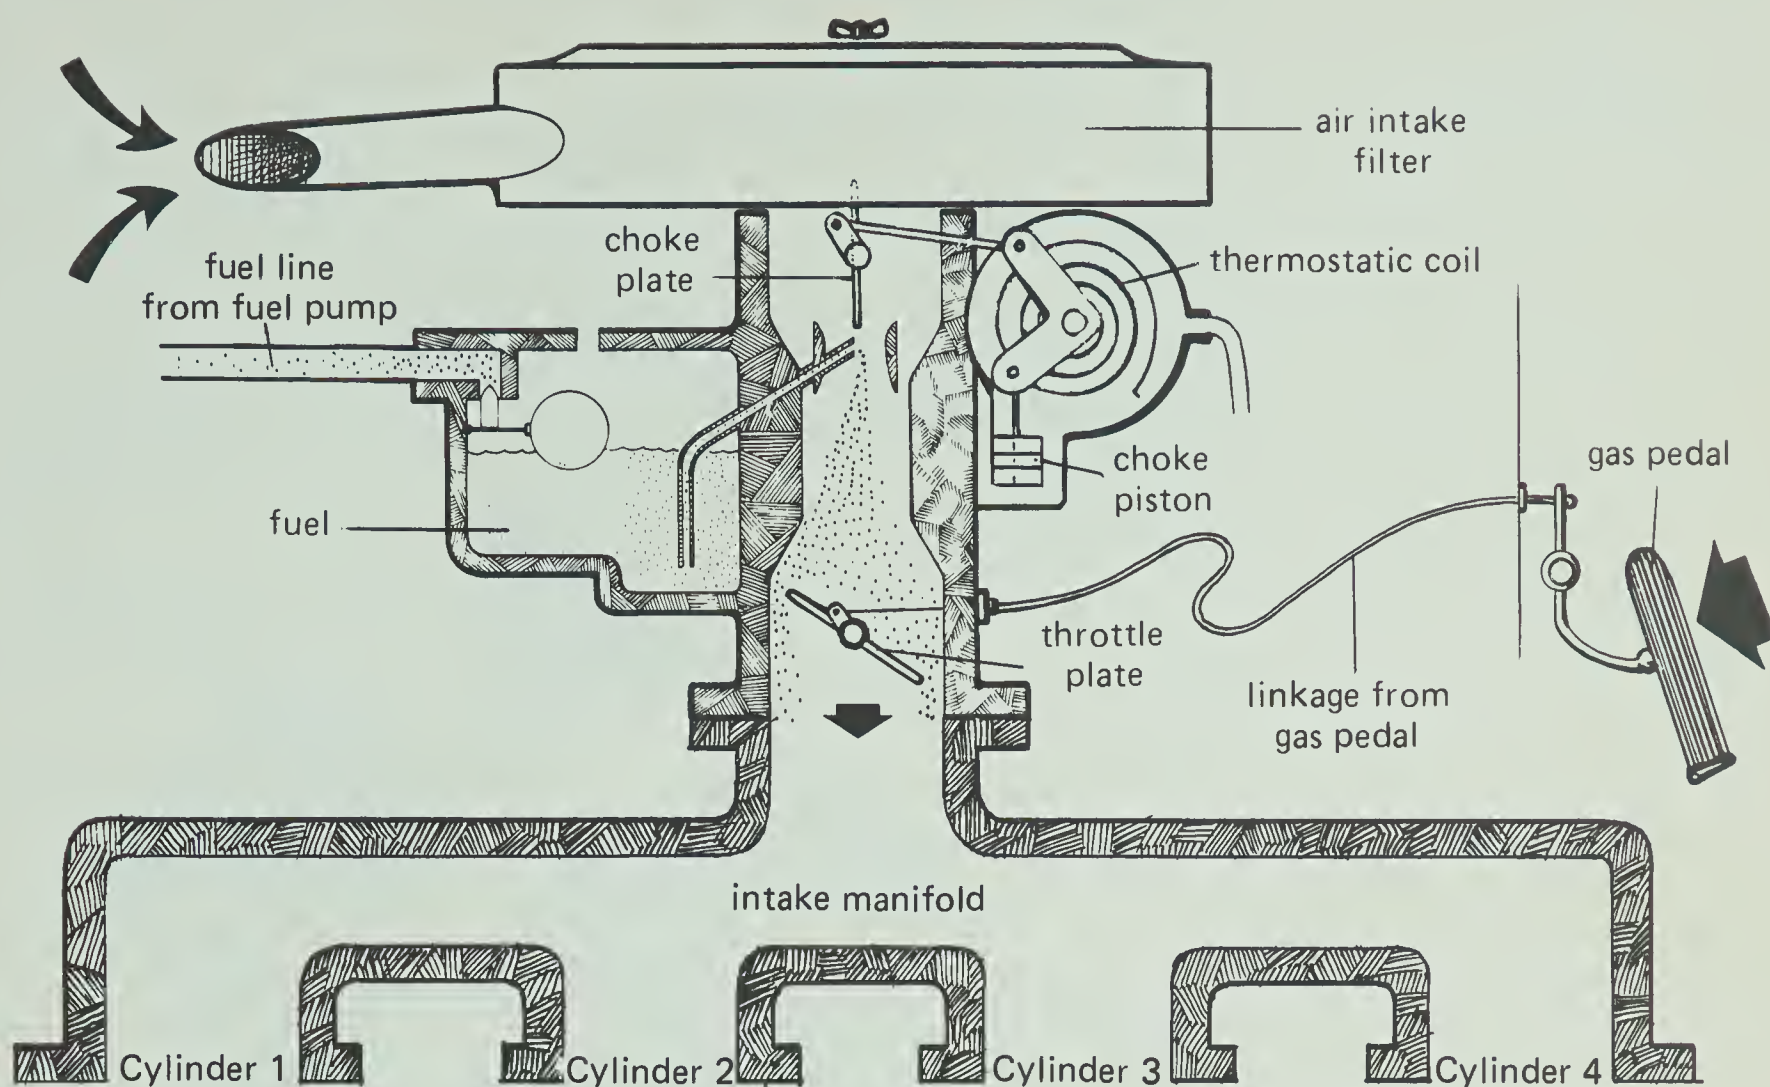

Figure 6-3
Most cars have an automatic choke. It’s opened and closed by a thermostat. Some cars have a manual choke, and the driver adjusts it with a knob. Either way, the choke plate is positioned between the air intake and the barrel. Figure 6-3 (page 33) shows an automatic choke on a carburetor of a four-cylinder engine.
The choke plate shown in Figure 6-3 above is open. This lets in lots of air and produces a lean air—fuel mixture. Notice that a clogged air filter would act on the engine just like a closed choke plate. It would starve the engine of air, making the fuel mixture too rich.
Look at Figure 6-3 again. Toward the bottom of the barrel, below the fuel nozzle, is the throttle plate. It's a valve that is connected to the gas pedal inside the car. When you step on the gas pedal to get more speed, the throttle plate opens, increasing the air—fuel flow into the cylinders through the intake manifold.
- 6-6. From the adjustment of the carburetor parts, would you say that the engine in Figure 6-3 (page 33) is going fairly fast or fairly slow?